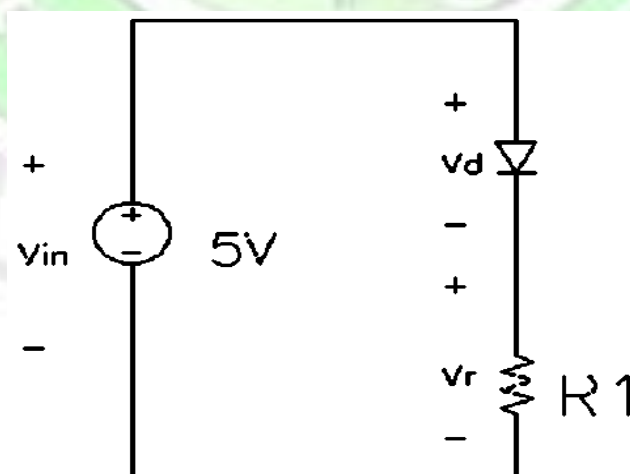

Fig. 9-2
1. Connect the circuit of Fig. 9-2. Measure both current flowing through and voltage across the diode using $R1 = 2.2 \text{ K}\Omega$.